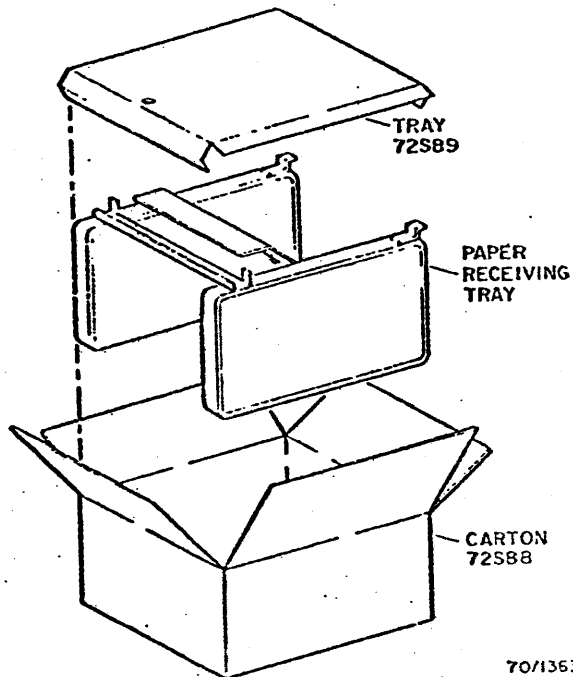

Fig. 2-11. Paper Receiving Tray Unpacking
8. Replace left end cover. Open paper receiving tray carton, remove tray. Remove tape from tray and install (Fig. 2-11).